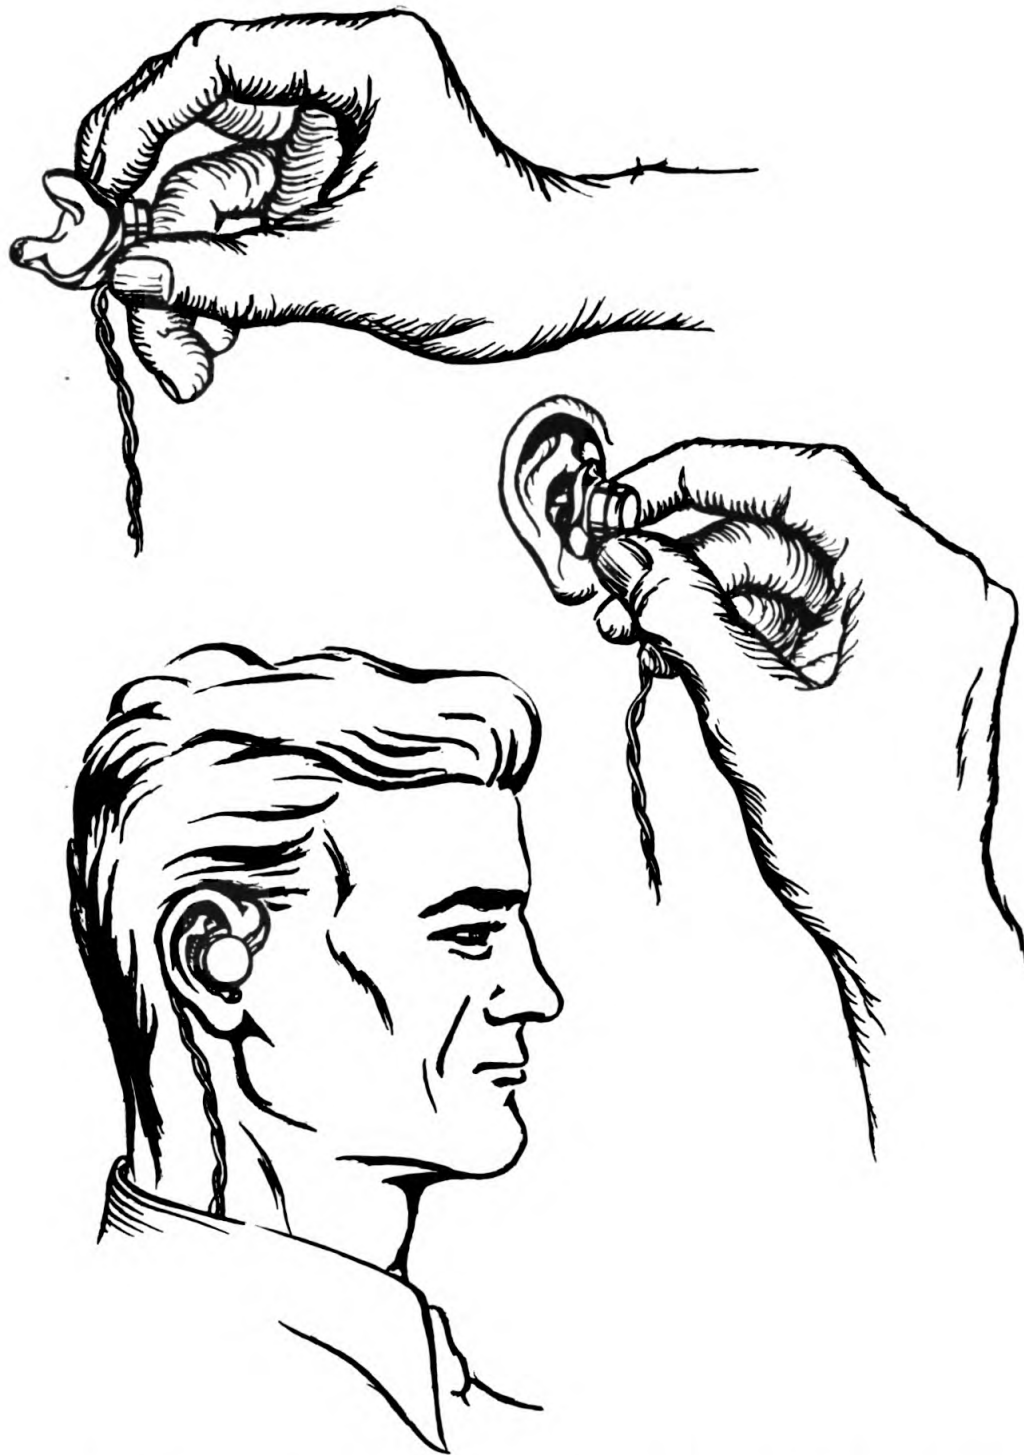

Figure 12. Three Steps for Inserting Ear-piece of Headset HS-34-A in the Ear
c. Insert the earphone in the right ear (figure 12) as follows:
(1) Hold the earphone with the thumb and index finger so that the “wing” on the eartip is at your index finger tip pointing away from you, as shown in figure 12.
(2) Without changing your hold on the earphone, catch the “wing” in the front rim of your ear.
(3) Slide the wing down the rim and at the same time gently press the “horn” projection into your ear.
(4) Lead Cord CD-655-A from the phone around your ear, between it and your head. Normally Cord CD-655-A will tuck in under your shirt collar (figure 12), run along your arm under your shirt sleeve, out at the wrist and into the tip jacks marked HEADSET on the control plate under the suitcase handle. Of course if you aren't on a “snooping job” no need exists for concealing the headset in this manner and you can operate with any low-impedance headset plugged into JK-34-A on the front panel at the place marked HEADSET.